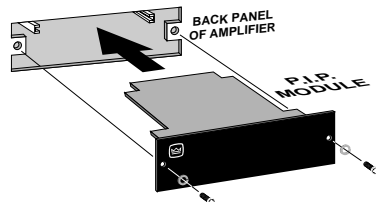

Fig. 3.3 Installation into a Standard P.I.P. Amplifier
3. *Standard P.I.P. Amplifiers:* Align the edges of the *P.I.P.–FTE* in the *P.I.P.* card rails and firmly push the unit in until it is seated against the mounting bracket (see Figure 3.3).